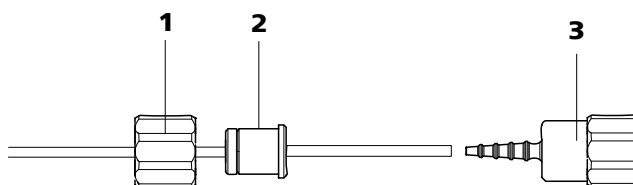

Figure 31 Install pump tubing connection without filter
- **Case B:** a 6.2744.160 pump tubing connection **without filter** (see Figure 31, page 58).